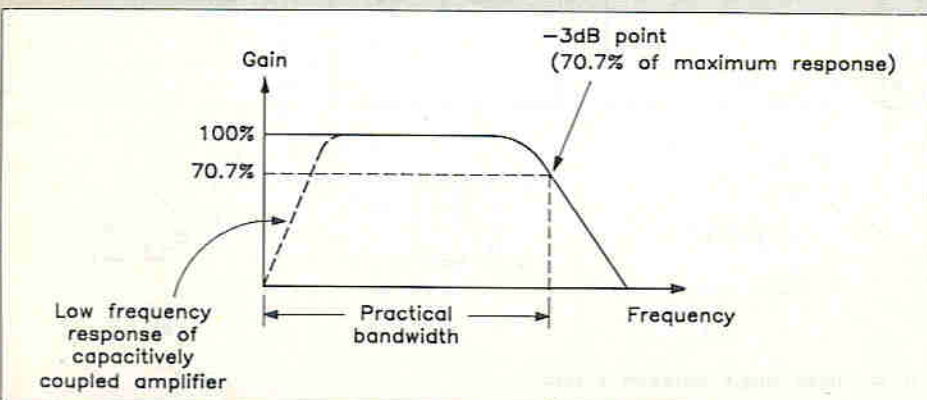

Figure 5. The meaning of input and output impedance of an amplifier.
3) Bandwidth: the gain of an amplifier is never absolutely constant with frequency, though it is possible to design it so that it is reasonably so over a particular range of frequencies, for any given application. For example, the normally accepted range of audio frequencies for good quality reproduction of music is usually considered to lie between 20Hz and 20kHz. Bandwidth is a method for stating in specific terms the range of frequencies for which the gain is more or less constant within certain limits. These limits are termed the -3dB points of response, which are illustrated in Figure 5.
Just to jog the memory, a reduction of -3dB corresponds to a fall from some maximum value to 70.7% of this maximum. For example, if the maximum gain of an amplifier is 100 then, at the -3dB points the gain is 70.7. There 'may' be two -3dB points on the response characteristic of an amplifier, one at low frequencies, one at high frequencies. The word 'may' is emphasised because in the case of many IC amplifiers, there is only a -3dB point at high frequencies. The curves for both of these two cases are included in Figure 5.